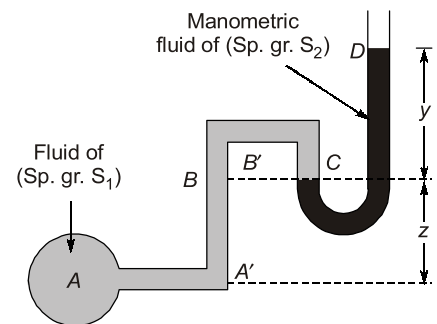

Figure 2.9 U-tube Simple Manometer
- Consider a U-tube simple manometer is measuring pressure of a fluid of specific gravity S_1 (Figure 2.9). To write an equation for the pressure of the fluid following points should be kept in mind.